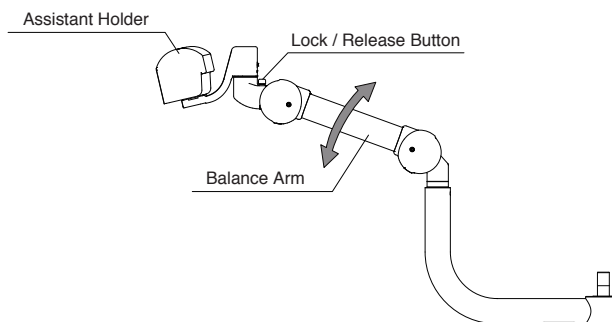

Fig.3-27 Height Adjustable Assistant Arm
(7) Height Adjustable Assistant Arm (Optional) (Fig.3-27)